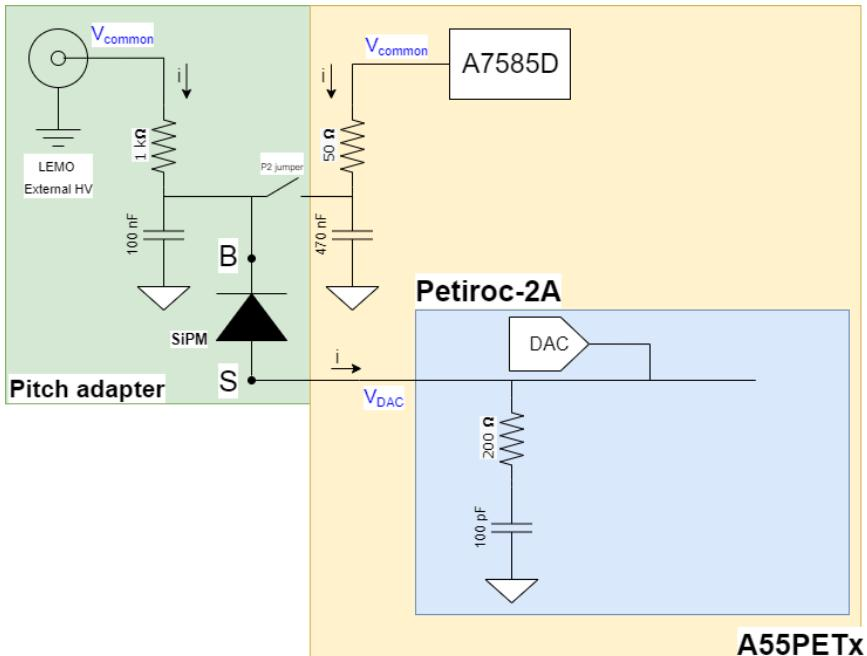

Figure 10.6: SiPM connection scheme to the ASIC and biasing lines when using the pitch adapter kit
The adapter provides 64 signal readout lines (S_x) and 64 sensor bias (B) lines. Each adapter has two 2.54mm-pitch strip connectors, each one exposing 32 bias/signal couples. Once the adapters are plugged in, the bias can be provided by the A7585D on the A55PETx board itself or externally through the LEMO HV connector available on the adapter. The jumper P2, if inserted, connects the bias pins to the DT5550W High Voltage generator while the LEMO connector is always connected to the Bias pins. The adapter is designed to optimize connections to SiPMs. Each detector has independent bias lines filtered with $1k\Omega$ resistor and $100nF$ capacitor, as shown in Figure 10.6
External HV	LEMO HV. External High Voltage input for SiPM biasing. Connection to SiPMs cathodes as shown in Figure 10.6 . The external HV connector is always connected to the Cathode pins B